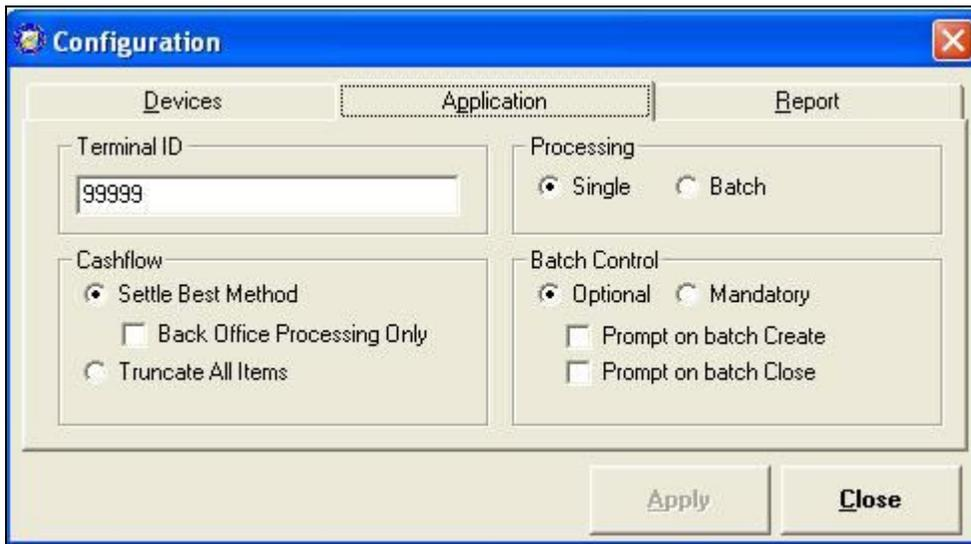

Figure 2.21
From the POS configuration window, click the 'Application' tab. This tab is used to set up preferences within the POS application (Figure 2.21).
The Terminal ID is provided by the Treasury OTC Support Center prior to installation and entered during the Installation process. It should not be changed, unless the PC is being used as a backup PC for batch recovery. The Terminal ID in Figure 2.21 is only an example. Refer to *Batch Recovery* in the *Troubleshooting* section for more information. To change the terminal ID, click in the field and type the terminal ID. Call the Treasury OTC Support Center at (866)945-7920, or 302-324-6442, or military DSN at 510-428-6824, option 4, option 5, option 4 or via email at FMS.OTCChannel@citi.com if value is unknown.